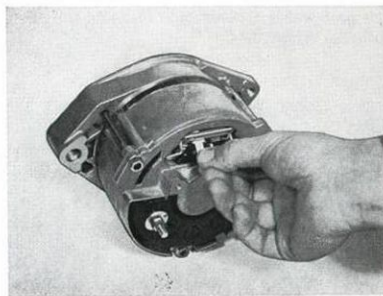

Fig. 3-55. Removing brush holder
2. Remove the screws holding the brush holder and then take off the holder, see Fig. 3-55.